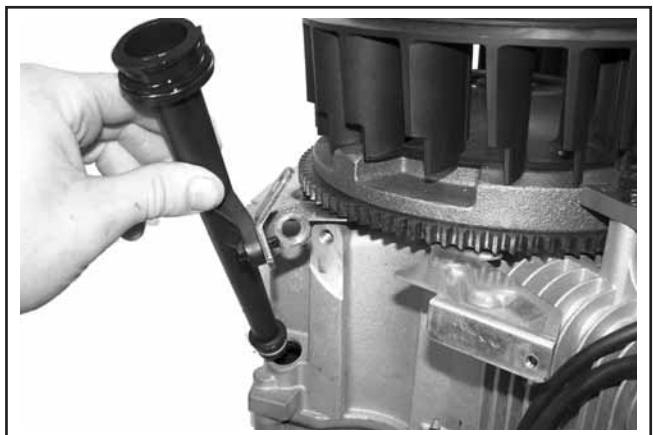

Figure 8-19. Removing Oil Fill Tube.
4. Pull out the oil fill tube with the lifting strap from the crankcase. See Figure 8-19.